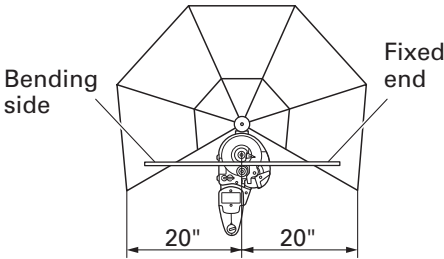

Fig. 20
- (1) Be sure to install the deflection guard when bending a rebar whose bending length and the fixed length are 20" (inside dimension of deflection guard) or less (Fig. 20)